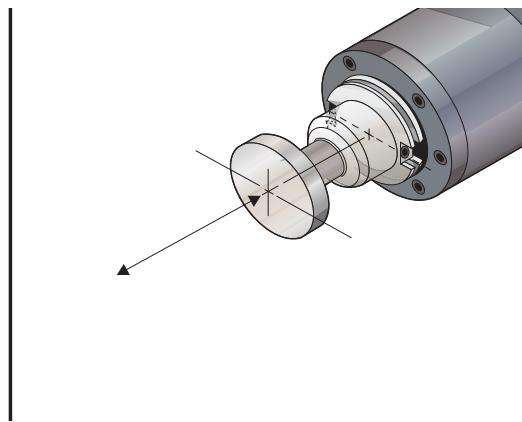

Figure 3.8-15
**NOTE:** As an alignment aid, a 2.325" diameter disk mounted into a tool holder may be used (Refer to Figure 3.8-15). Handle jog as necessary to bring the disk in line with the center of the tool changer's fingers.